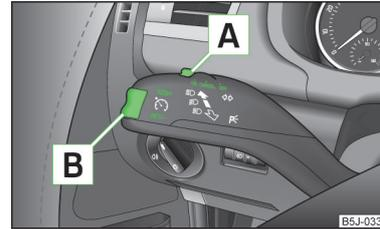

Fig. 114
- Press switch **A** » Fig. 114 to the **ON** position.
- Press rocker button **B** » Fig. 114 on page 117 to the **RES** position. ▶
- ▶ The stored speed can be **reduced** by pressing rocker button **[B]** » Fig. 114 on page 117 to the **SET** position.
The cruise control system can be **temporarily switched off** by pushing switch **[A]** » Fig. 114 on page 117 to the spring-loaded **CANCEL** position or by depressing the brake or clutch pedal.
- ▶ Press switch **[A]** » Fig. 114 on page 117 to the right to the **OFF** position.